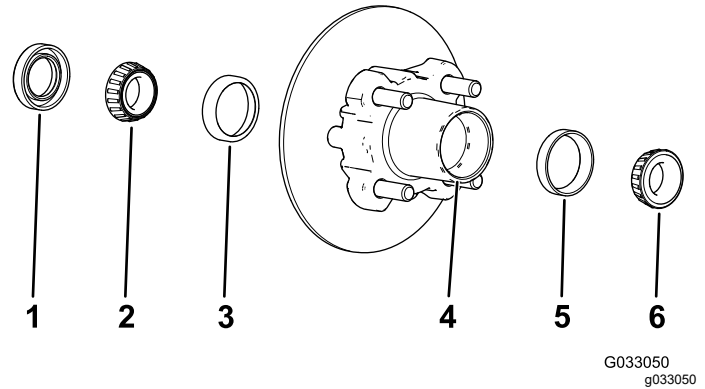

Figure 33
1. Remove the outboard bearing and bearing race from the hub (Figure 33).
2. Remove the seal, inboard bearing from the hub (Figure 33).
5. Clean the cavity of the hub of all grease, dirt, and debris (Figure 33).
7. Fill the cavity of hub 50 to 80% full of the specified grease (Figure 33).
8. Assemble the inboard bearing onto the race at the inboard side of the hub and install the seal (Figure 33).